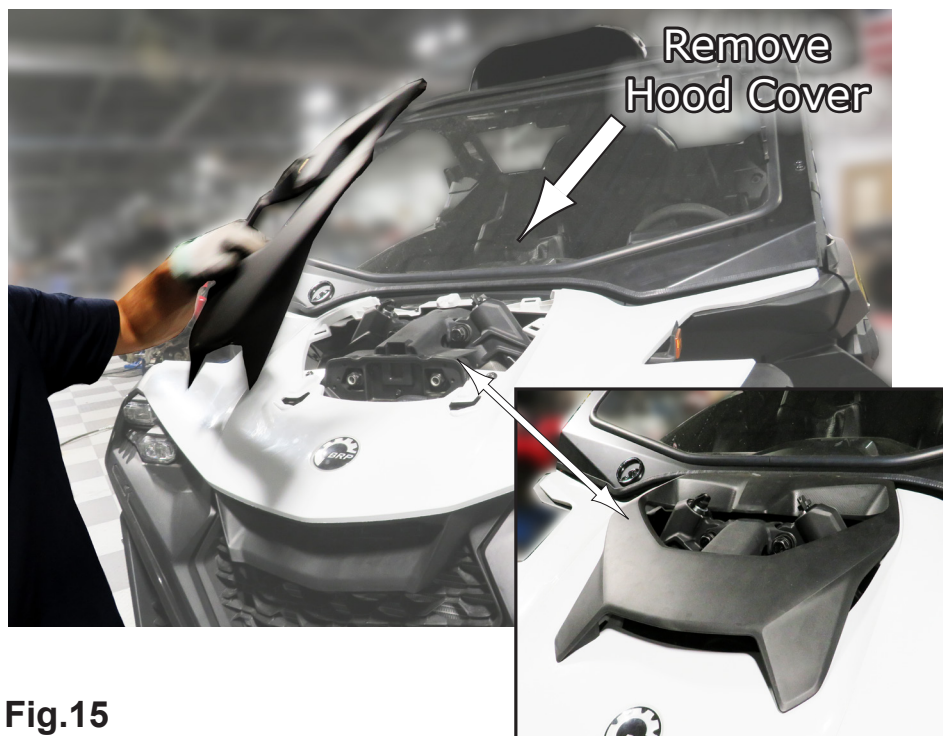

Fig.15
15.Next, now you need to remove the **Hood Cover** as shown in **Fig.15a**. This will give you access to work from above in the next steps. See **Fig.15**.